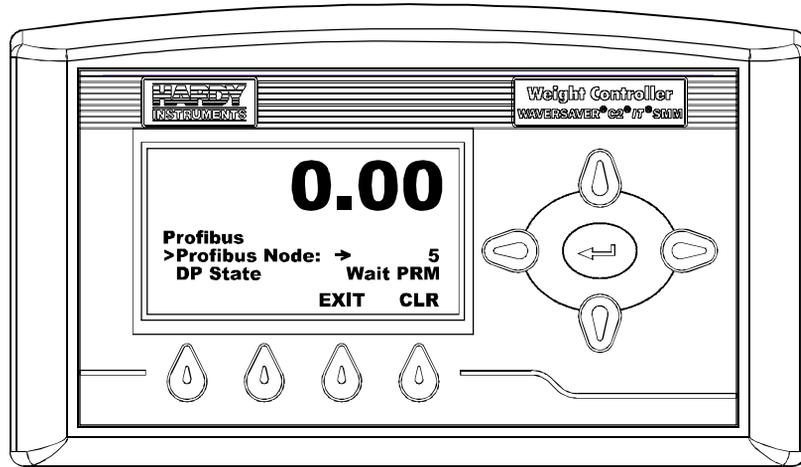

FIG. 172 PROFIBUS MENU/SETTING NODE ADDRESS
Step 5. Press the Enter button. The Profibus Menu appears. (See Fig. 172)